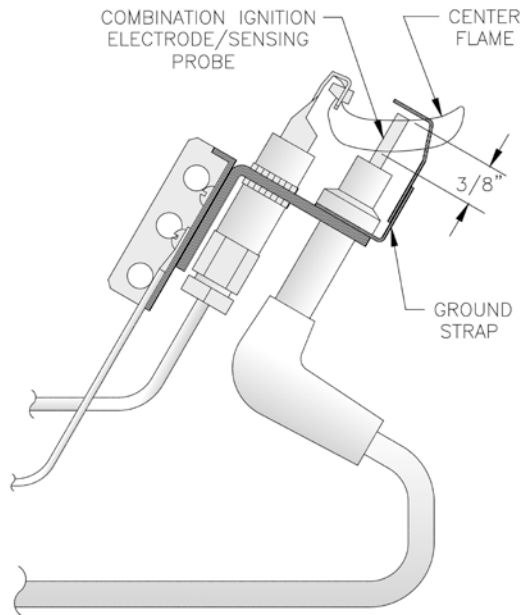

Figure 19: Pilot Burner Flame
- F. Check pilot burner flame.** See Figure 19. Flame should be steady, medium hard blue enveloping 3/8 to 1/2 inch of sensing probe.